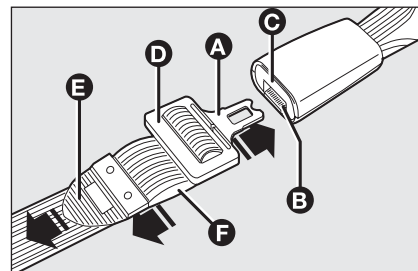

fig. 4
**Static lap belt with 2 anchor points (for versions/markets where applicable) fig. 4**